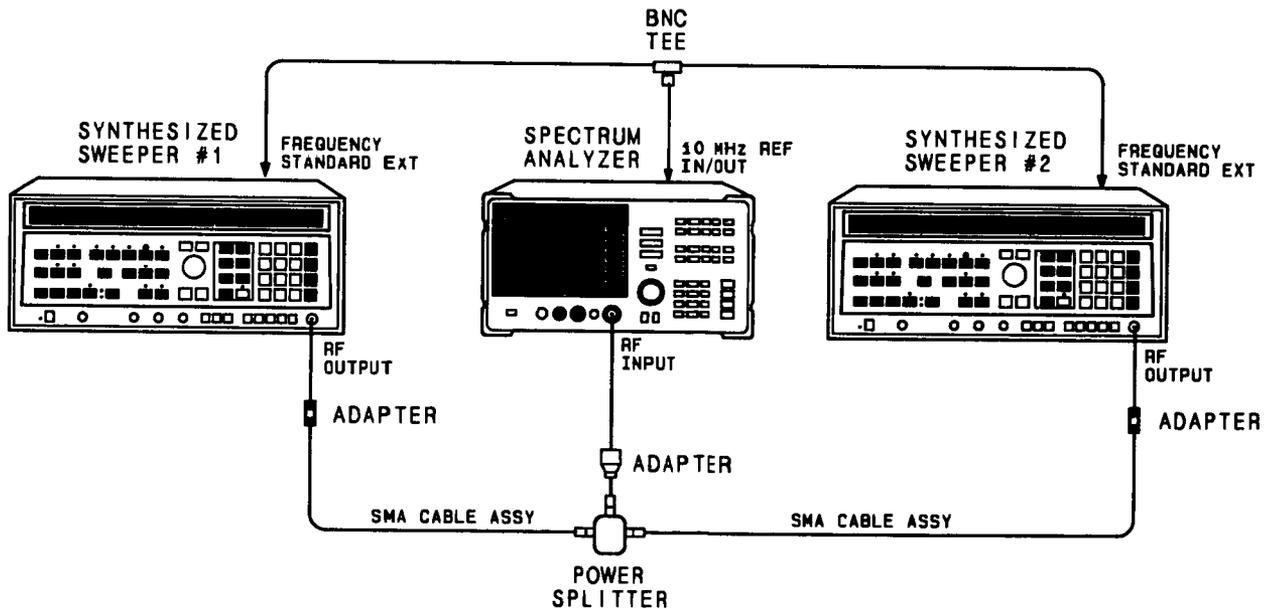

Figure 3-19. Frequency Span Accuracy Test Setup
1. Connect the equipment as shown in Figure 3-19. Both HP 8340A's should be set for EXT FREQUENCY STANDARD. Connect the power splitter directly to the analyzer's RF INPUT. Do not use a cable.